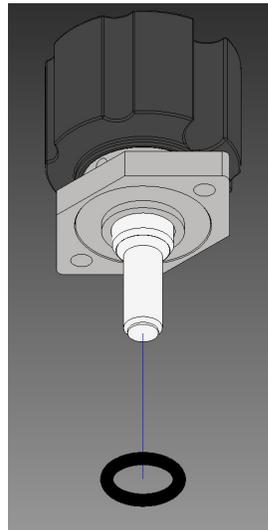

FIGURE F. 4. - O-Ring Removal
4. Remove the O-ring from the stem. Do not roll O-ring, as this may damage the O-ring. Gently work the O-ring off the stem (see Figure F. 4.)